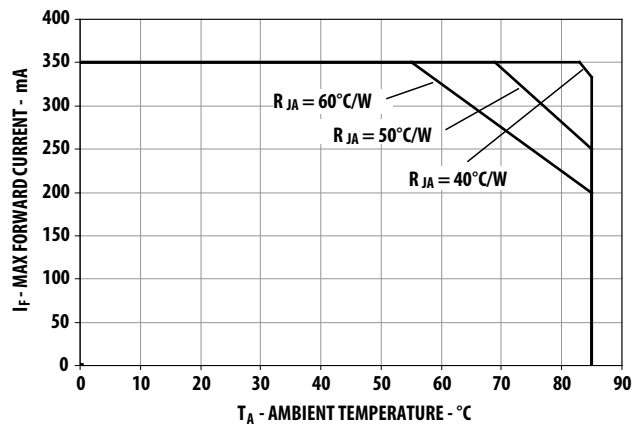
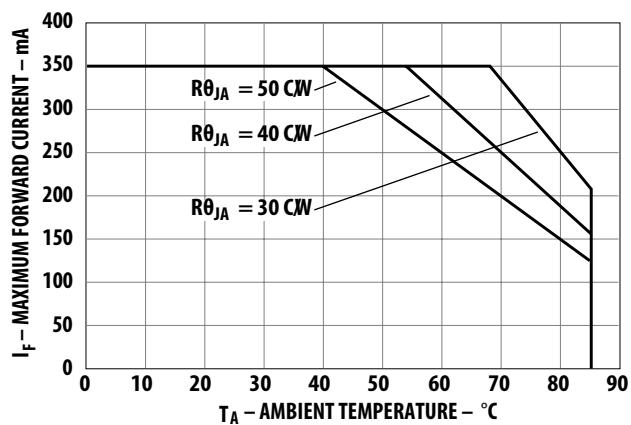

Figure 5. Maximum forward current vs. ambient temperature for AlInGaP
Figure 11. Maximum Forward Current vs. Ambient Temperature for InGaN
1. DC forward current – derate linearly based on Figure 5 for AlInGaP & Figure 11 for InGaN.